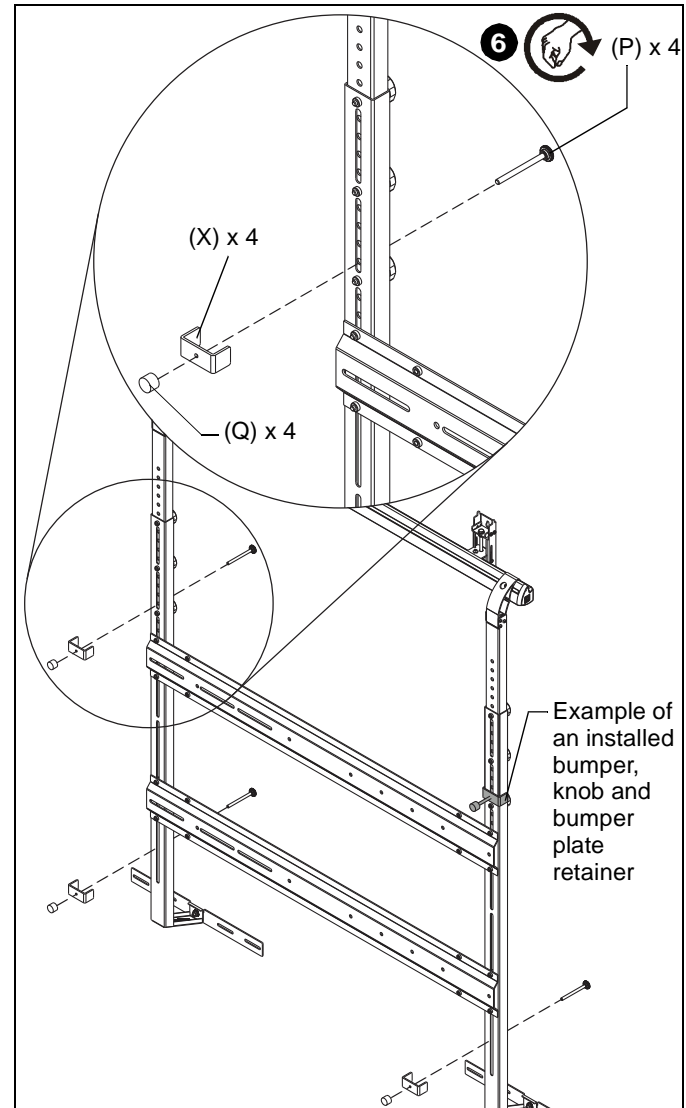

Figure 10
6. Attach two bumper plate retainers (X), 4" knobs (P), and bumpers (Q) through each leg assembly, one just below top of flat panel and one just above bottom of flat panel. (See Figure 10)
7. Adjust 4" knobs (P) so that flat panel is supported evenly by each of the four bumpers. (See Figure 10)